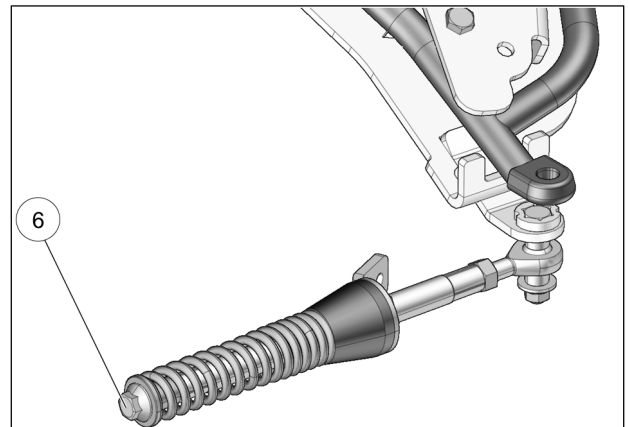

Fig. 24
14. Verify that spring assembly bolt (6) is tightened to the recommended torque specification: 75 N•m [55 lb•ft]. Refer to Fig. 24